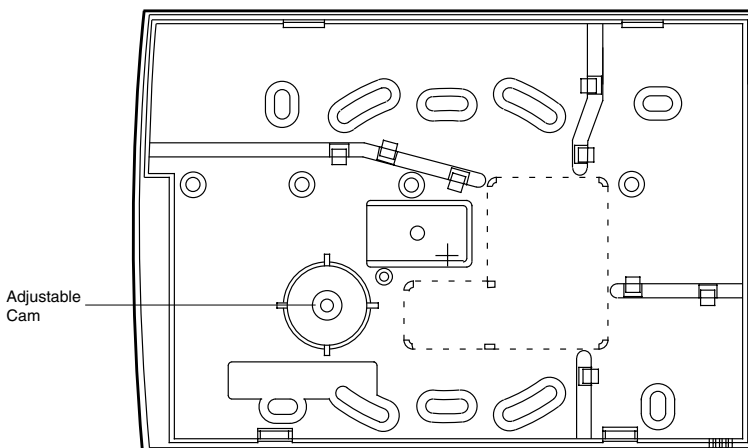

Figure 6. Backplate of the 9930 Keypad
The backplate of the 9930 keypad contains an adjustable cam that you can use to make sure the tamper switch will operate correctly when the keypad is mounted on an uneven surface. Figure 6 shows the backplate and the position of mounting holes.
2. Hold the backplate in place against the wall and mark the position of the centre hole in the adjustable cam (see Figure 6).